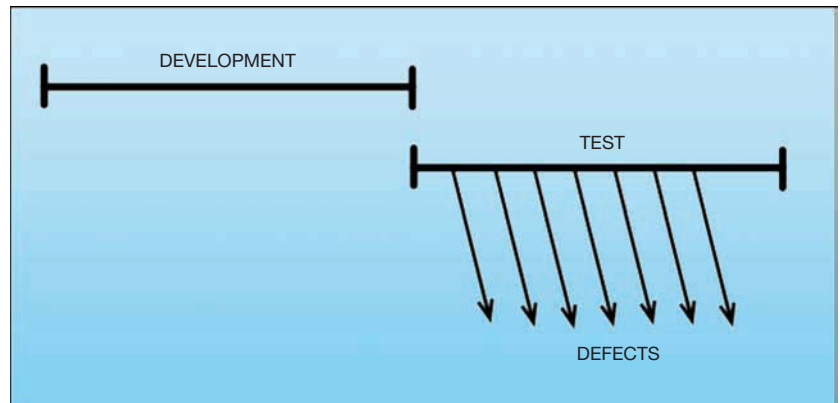

Figure 1 When test follows development, it will find defects.
cuit, but its edge rates create interfering harmonics. **Figure 1** shows the spectral content of a 10-MHz square wave. The 10-MHz signal has an edge rate of 10 nsec. The magnitude of these harmonics decreases with frequency. Generally, the potential EMI for this type of signal spans to the maximum frequency, or  $1/(\pi \times t_{\text{RISE}})$ , where  $t_{\text{RISE}}$  is the rise time, equating to approximately 31.8 MHz for a 10-nsec edge rate.
**Figure 1** The spectral content of a 10-MHz square wave shows that the 10-MHz signal has an edge rate of 10 nsec. The magnitude of these harmonics decreases with frequency.
One aspect of designing for manufacturability is determining why these bugs happen to you. The simple answer is this: You put them there. When test follows development, it will find defects (Figure 1 and Reference 1). You make mistakes when you develop; the tests’ job is to find the defects. If you are any good at testing, you’ll find bugs. Following development by test means you must find, fix, and manage a boatload of defects.